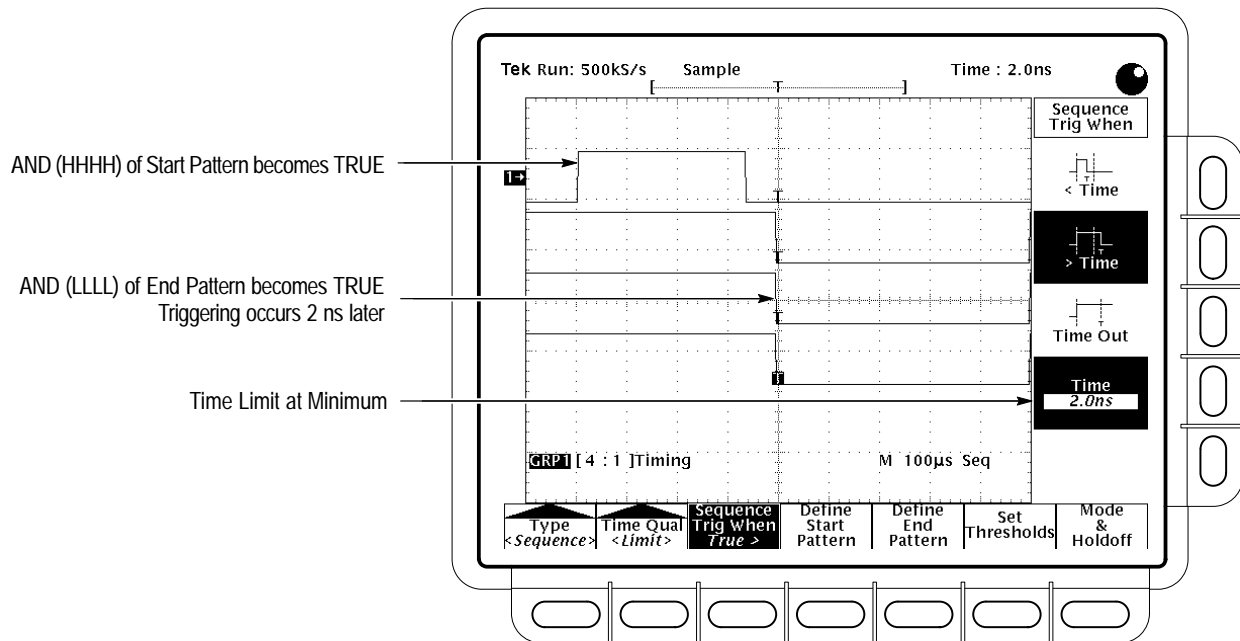
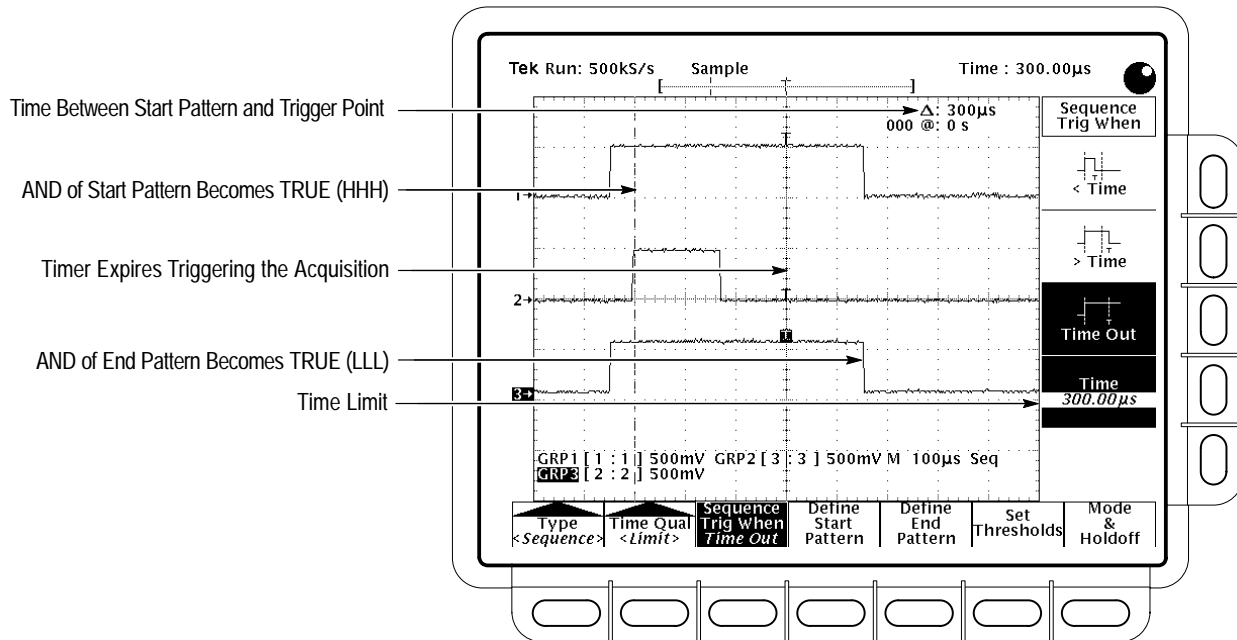

Figure 3-70: Triggering on a Sequence: > Time, Minimum Time Qualification
Figure 3-71: Time-Qualified Pattern Triggering: *Time Out*
*To Trigger Immediately on a Sequence*, which begins on page 3–154, lists the specialized procedure for using the time-limit qualifier > Time with minimum time qualification to trigger as soon as possible on a sequence of two patterns. Figure 3-70 on page 3–155 locates the trigger point for this type of time-qualified sequence trigger.
*To Trigger on a Time-Limit Qualified Sequence*, which begins on page 3–155, lists the more general procedure for using all three time-limit qualifiers — < Time, > Time, and Time Out. It includes an example (Figure 3-71 on page 3–156) that locates the trigger point for the Time Out qualified sequence trigger and contrasts it with the trigger point established for other types of time qualification follows the procedure.
Figure 3-70 shows triggering on a sequence of two patterns, time-qualified to trigger as soon as possible after the second pattern is recognized. (The first pattern must be recognized first.) Compare with Figure 3-71 on page 3–156 that shows Time Out time qualification.
Figure 3-71 shows an example of Time Out qualification. In this case, the Boolean requirements for the three-input start and end patterns are defined by the AND logic chosen. The inputs shown (Ch 1 – Ch 3) must match their defined
You can use Figure 3-71 to explore two key concepts for using sequence triggers.
Reference Figure 3-71, which show Time Out selected, as you consider the following points:
- The start pattern becomes TRUE, so the logic scope starts an internal timer. The left-most vertical bar cursor marks the transition to TRUE in Figure 3-71.
- > Time would cause the trigger point to occur at the point the end pattern becomes TRUE in Figure 3-71, since the 500  $\mu$ s between start and end patterns is greater than the 400  $\mu$ s set.